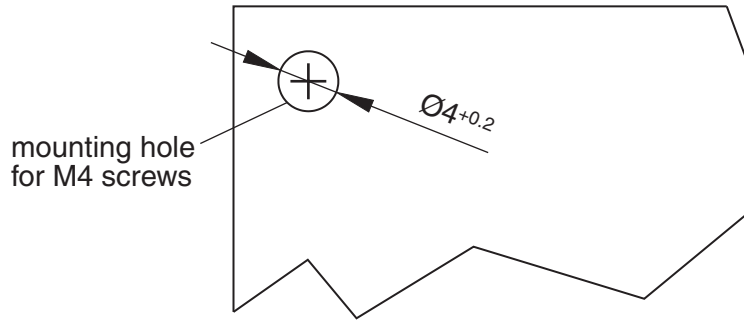

Fig. 3
- (ii) A drawing of a mounting hole in the corner of a circuit board is shown in Fig. 3. The tolerance of the hole diameter is shown as $+0.2$